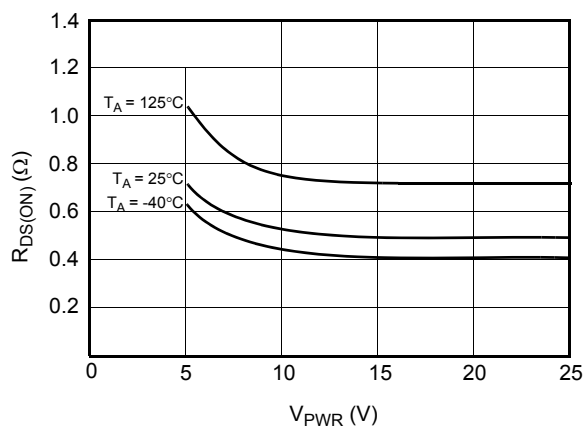

**Figure 4. SPI Timing Characteristics**
The Serial Input (SI) pin is used to enter one of seven serial instructions into the 33999. SI SPI bits are latched into the Input Shift register on each falling edge of SCLK. The Shift register is full after 24 bits of information are entered. The 33999 operates on the command word on the rising edge of  $\overline{CS}$ . To preserve data integrity, exercise care to not transition SI as the SCLK transitions from high-to-low state (see Figure 4, page 9).